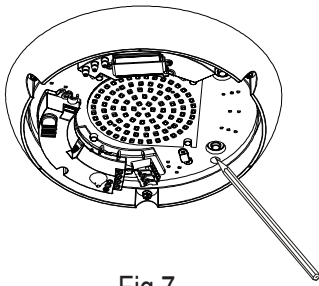

Fig.7
- Step3 Put the base of the product on the ceiling to make the drilling mark (as Fig.7)